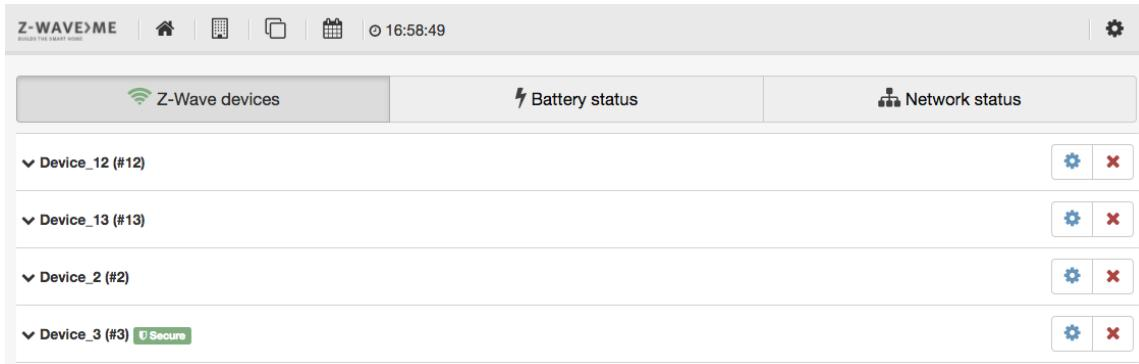
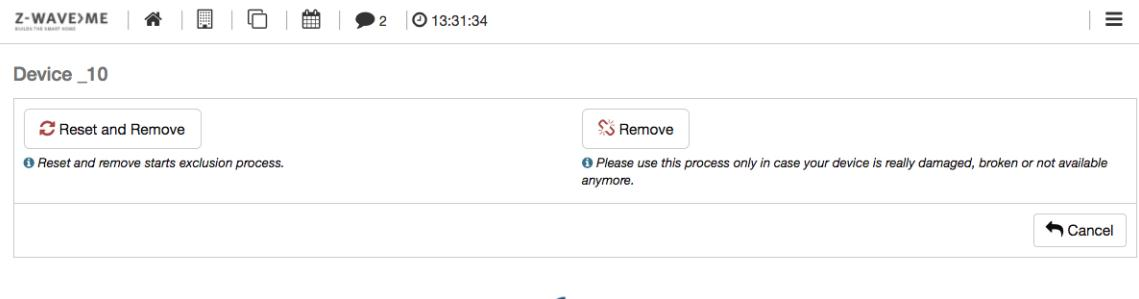

Figure 4.25: Z-Wave device overview
Figure 4.28: Z-Wave Device Reset /Exclusion
- Figure 4.25 shows a list of the physical Z-Wave devices. The **⋮** button will open the very same device management dialog as described during manual post-inclusion configuration in Section 4.2.2. The **☒** button opens a dialog to remove the device. As shown in Figure 4.28 there are two options: